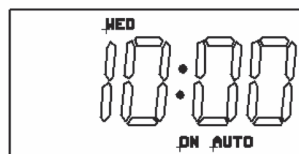

Figure B-17: AUTO ON
- ON AUTO** - Output to ON until next program OFF period. Refer to Figure B-17.